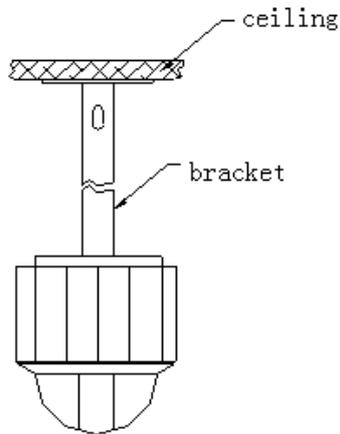

Fig 2
2. Hanging ceiling mount (Fig 2):